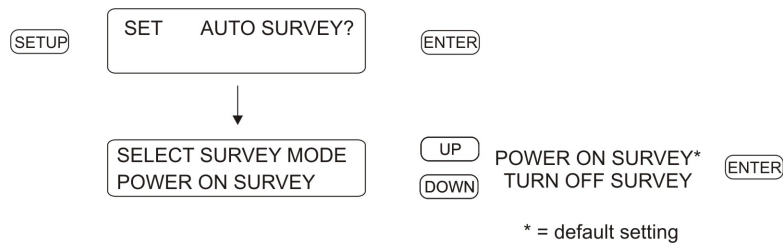

Figure 7.21: Auto Survey Configurations
The Model 1094B GPS receiver uses an Auto Survey Mode that determines its position relative to the available Global Positioning Satellites. It has two operating modes that are selectable from the front panel or through either of the serial ports. These modes are (1) Power On Survey, (2) Turn Off Survey. See Figure 7.21.